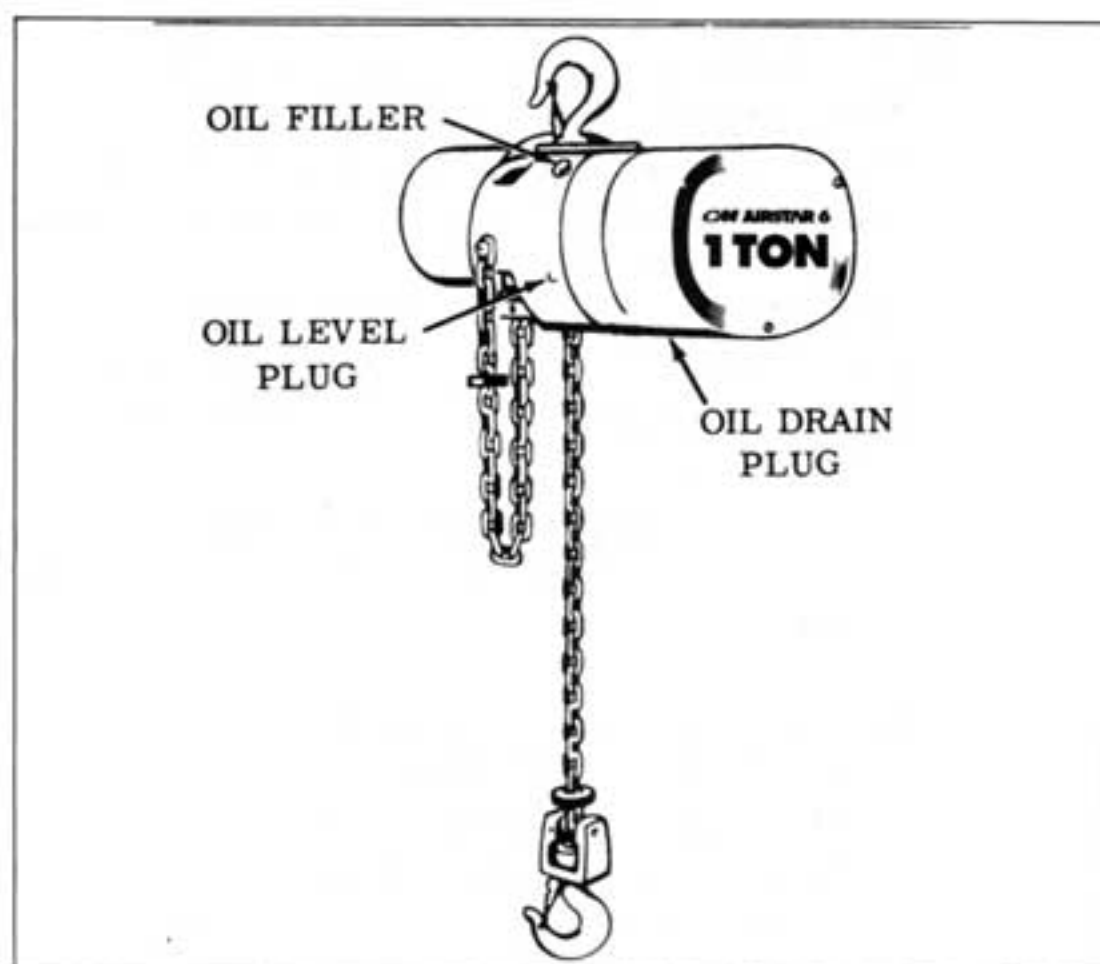

Figure 4-1. Location of Oil Filler and Plugs.
2-3. PRE-INSTALLATION CHECK. Check Oil Level. (Figure 4-1) The gearcase has been filled with oil, to the proper level at the factory. However, the oil level should be checked before hoist is operated.
4-4. CHANGE GEARCASE OIL (Figure 4-1).
- (1) Check to see that bolts securing motor to frame are tight. Also check for any visible damage to motor, supply head or muffler, such as a cracked or dented housing. Replace damaged parts.
- (2) Check hoist frame for signs of visible damage. If frame shows evidence of fracture, the hoist should be disassembled and inspected for further signs of damage from possible overloading. Replace damaged parts. Also check condition of limit stop.
- e. Check Oil Level. Remove oil level plug (Figure 4-1). If oil level is not even with bottom of tapped hole, add Automatic Transmission Fluid, DEXRON® Type, to bring proper level.